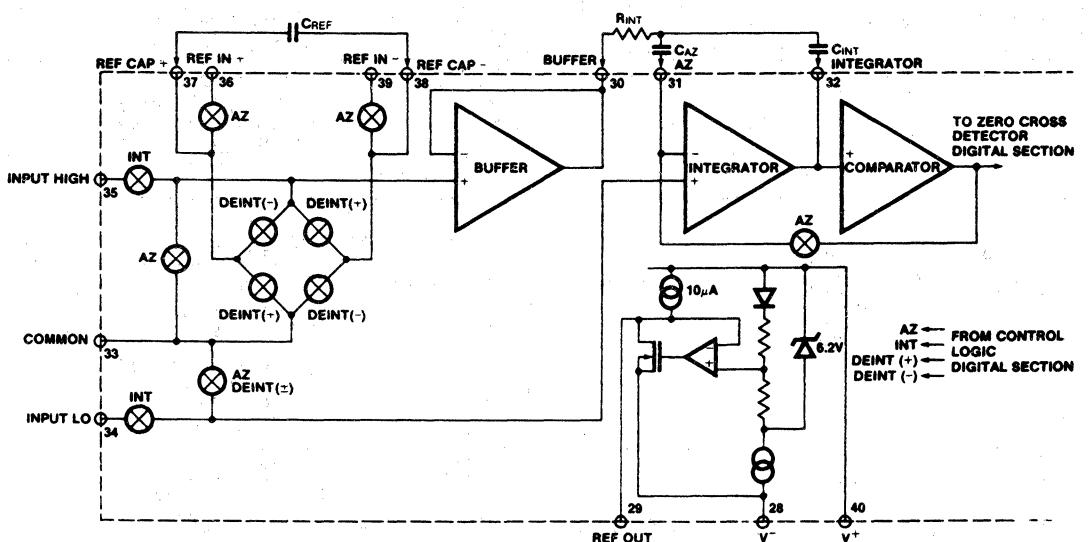
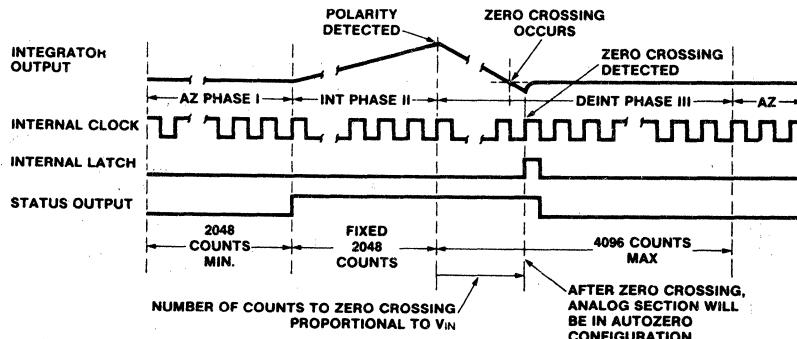

Figure 3: Analog Section
Figure 4: Conversion Timing (RUN/HOLD Pin High)
Figure 3 shows the equivalent circuit of the Analog Section of the ICL7109. When the RUN/HOLD input is left open or connected to V⁺, the circuit will perform conversions at a rate determined by the clock frequency (8192 clock periods per cycle). Each measurement cycle is divided into three phases as shown in Figure 4. They are (1) Auto-Zero (AZ), (2) Signal Integrate (INT) and (3) Deintegrate (DE).
During a conversion cycle, the STATUS output goes high at the beginning of Signal Integrate (Phase II), and goes low one-half clock period after new data from the conversion has been stored in the output latches. See Figure 4 for details of this timing. This signal may be used as a "data valid" flag (data never changes while STATUS is low) to drive interrupts, or for monitoring the status of the converter.
When the RUN/HOLD input is high, or left open, the circuit will continuously perform conversion cycles, updating the output latches after zero crossing during the Deintegrate (Phase III) portion of the conversion cycle (See Figure 4). In this mode of operation, the conversion cycle will be performed in 8192 clock periods, regardless of the resulting value.